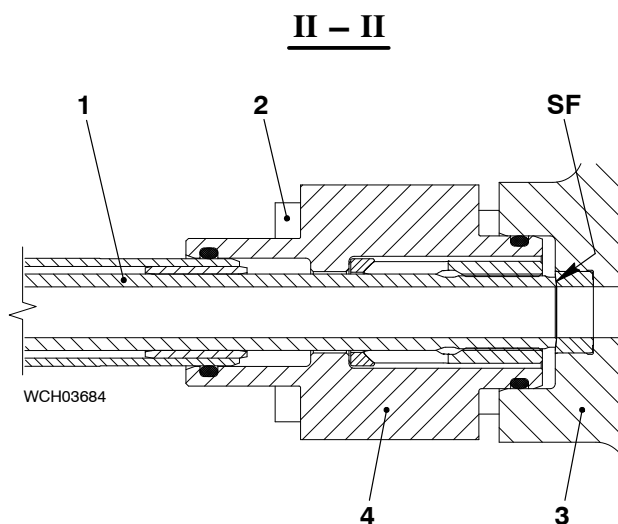

Fig. 4
- 4) Remove the four screws (2, Fig. 4) from the flange (4).
- 5) Carefully move the flange (4) away from the top housing (3).
- 6) Carefully remove the hydraulic pipe (1).
- 7) Apply protection to the sealing faces (SF) to prevent damage and contamination.